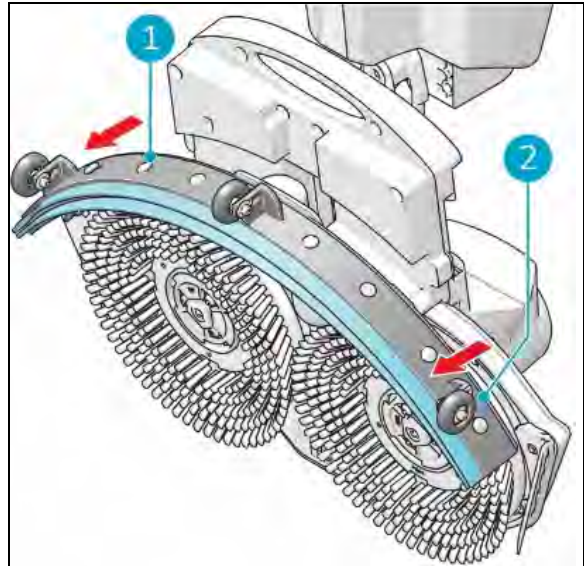

Figure 32
3. Pull on the left side of the squeegee to remove it (Figure 32, pos. 1).
4. Pull on the right side of the squeegee to remove it (Figure 32, pos. 2).